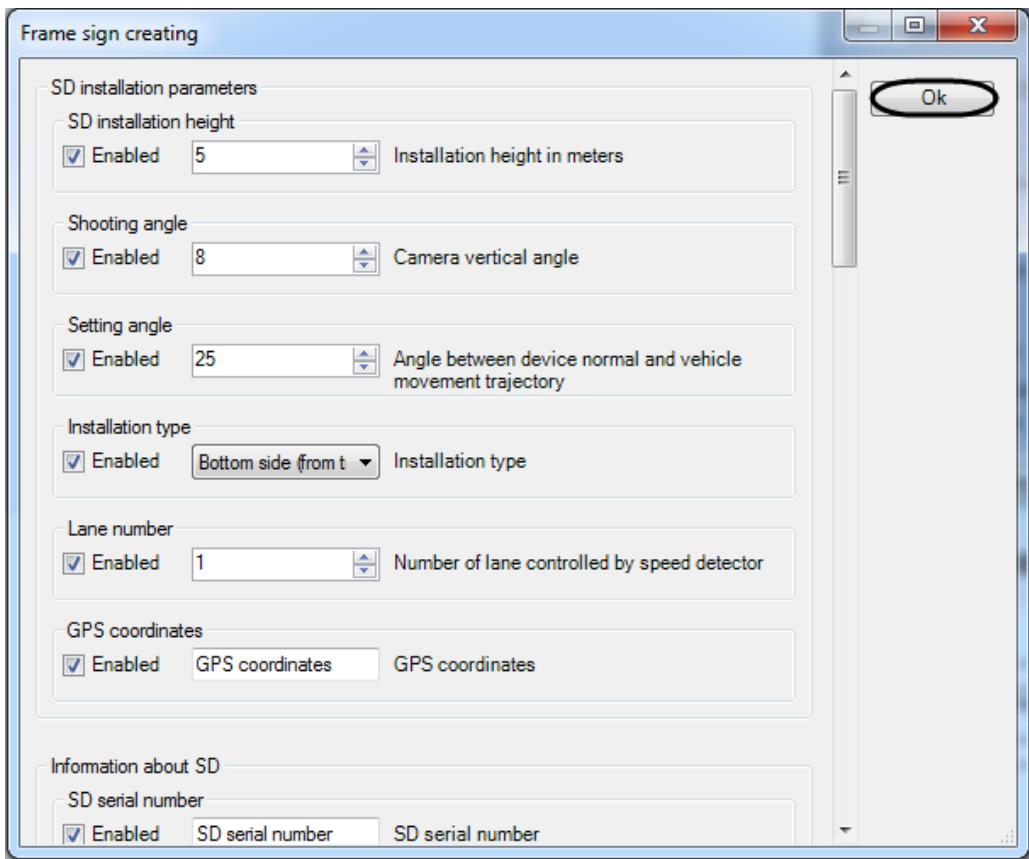

Fig. 7.2—14 Saving the changes in the dialog window Frame sign parameters
8. Click OK to save the changes and close Frame sign parameters window (Fig. 7.2—14).
Note. Click «» button to close the window without applied changes (Fig. 7.2—14).